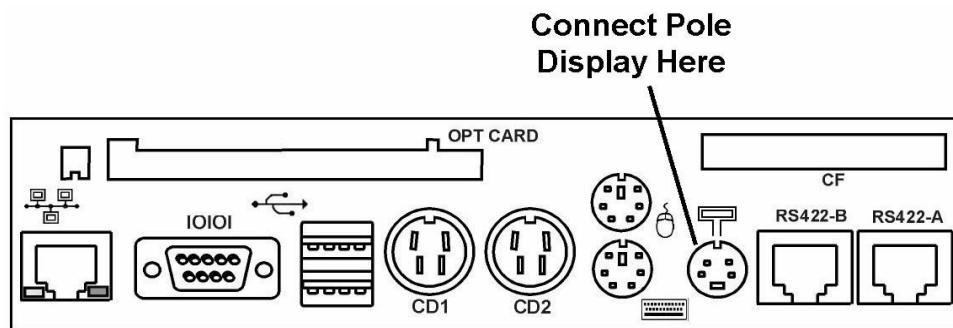

Figure 2-19: Connecting the Pole Display to the WS4 IO Panel
3. Figure 2-19 points out the location of the Pole Display connector.